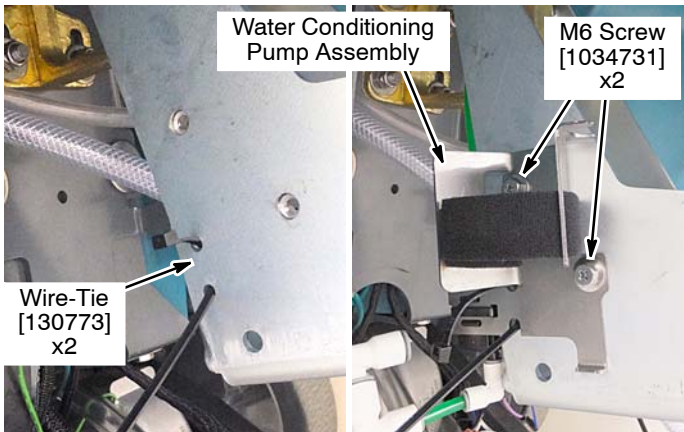

Fig. 48
- Route two wire-ties in scrub head bracket, both sides of bracket, as shown (Figure 48).
Using two M6 Hex screws, mount the water conditioning pump assembly to scrub head bracket as shown (Figure 48).